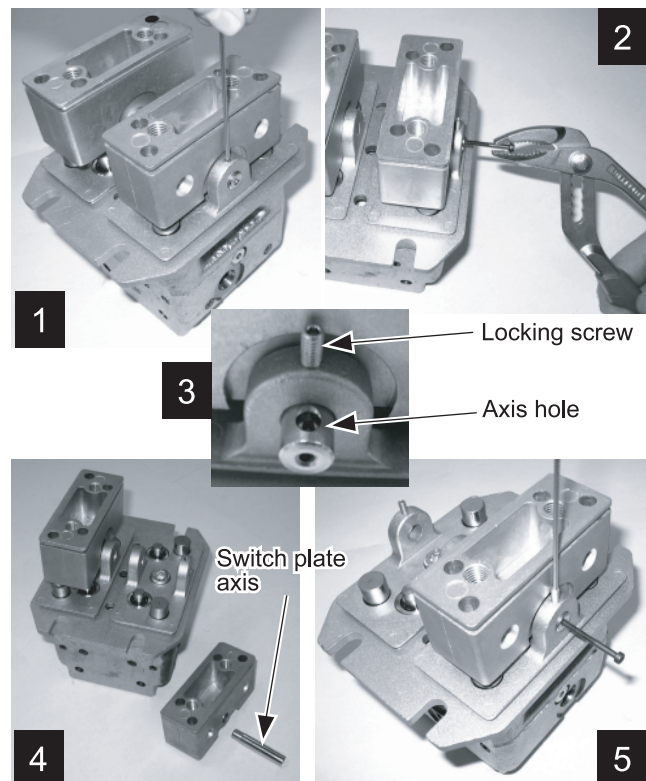

Fig. 33-209
- Both rubber boots (See 33.2.4.2 (1))
- 2) Remove the screw locking the axis using a 2mm socket wrench. (See Fig. 33-209 No.1)
(Using pliers if necessary). (See Fig. 33-209 No.2)
- Position the axis so that the hole is aligned with the locking screw as shown on the picture (See Fig. 33-209 No.3)